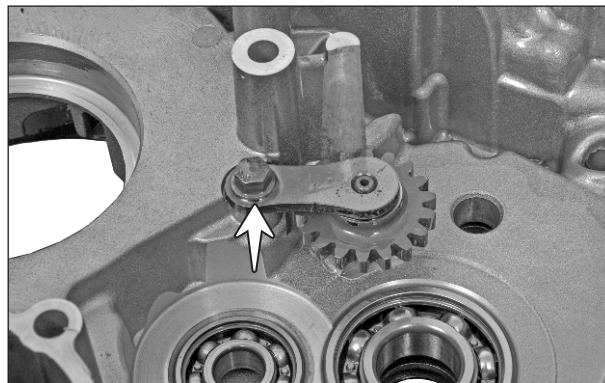

Fig. 3.176
- Assemble the idle gear on the crankcase assembly LH and secure it with the bracket idle gear using hexagonal flange bolt (M6x16) and tighten it to the specified torque. (Fig. 3.176)